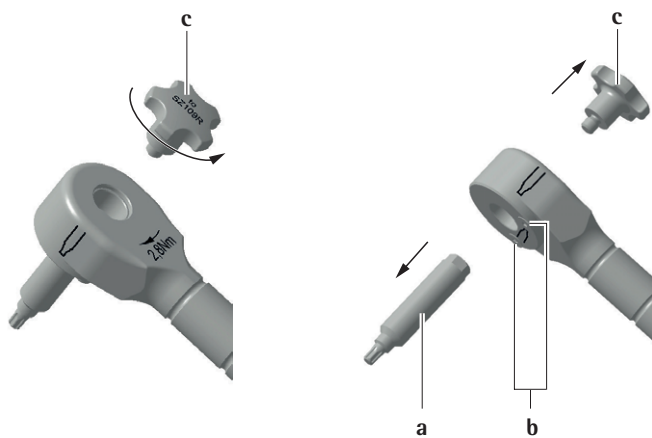

Fig. 19
- ▶ Unscrew the thumb screw **c** from the rear of the wrench head, as shown on the left side of the image, see Fig. 19.
- ▶ Remove the star bit **a** from the inner surface of the wrench head, as shown on the right side of the image, see Fig. 19.